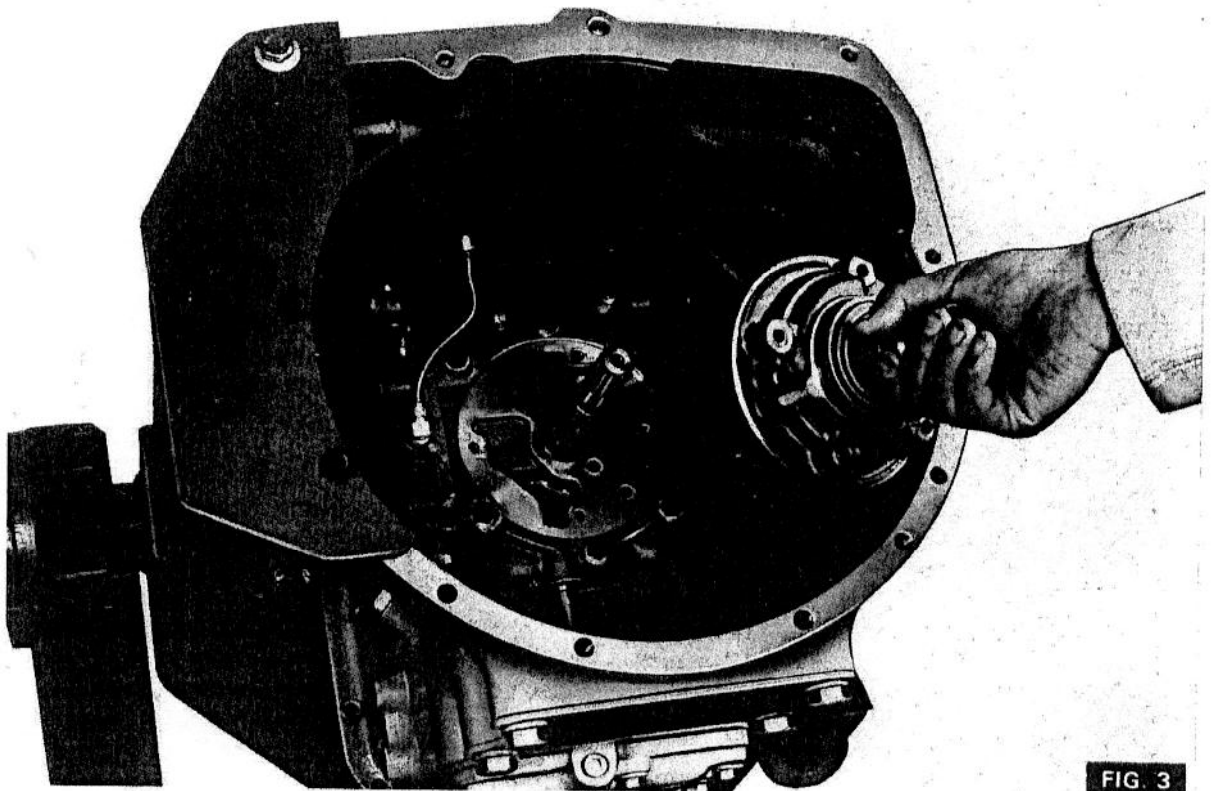

FIG. 3
1. (Fig. 3) Remove the four bolts and washers securing the oil pump to the oil distribution housing and lift the pump clear over the input shaft.